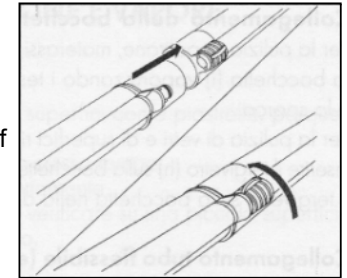
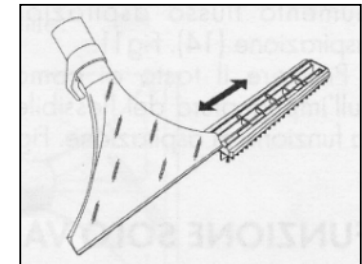

Fig. 4
Fig. 5
The accessories can be connected directly to the handle of the work hose (E) or to the extension wands (A), when so required. To secure the accessories to each other, simply fit the male end of one into the female end of the other and rotate the locking clasp. Fig 4.
- Stop the steam function by releasing the steam on/off button (F) on the handle of the work hose (E)
- Stop the vacuum function by releasing the vacuum on/off button (G) on the handle of the work hose (E)
- Rotate the accessories locking clasp. Fig. 4. Now, you can disconnect the accessories.
- Connecting the bristled frames to the brush (B). Two different types of frames can be attached to the large multifunction brush to clean and care for all surfaces:
- Bristled frame with rubber lip attachments (C), suitable for hard surfaces, for best steam collection.
- Bristled frame with attachments (D) suitable for loose and fitted carpets, etc...
- To change frames (C-D) simply slide the frames in or out in the direction shown in the illustration. Fig. 5.
- Connecting the nozzle (J) and small brushes (L)